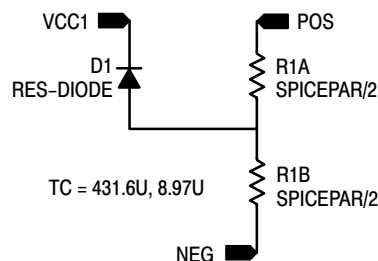

Figure 7. Resistor Model
there are parasitic capacitances associated with each. The subcircuit schematic is shown for the resistors in the "Resistor Model" schematic of Figure 7. The value of each subcircuit resistor is one half the value given on the top level schematic and the parasitic capacitance is modelled by a diode back biased to V_{CC} . Also note that the resistor temperature coefficient (TC) values for both the resistor subcircuit and the resistors in the device subcircuits are provided. For modelling at nominal temperatures only, these TCs can be omitted. If however, modelling will be performed at the temperature extremes, the TC information should be included.